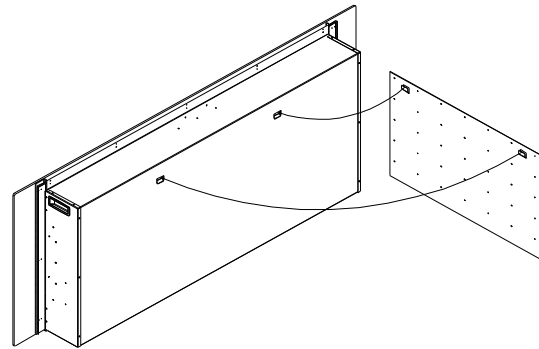

Fig. 2
4. Take out the hanger from the fireplace by unscrew the screw. Referring to Fig.2.